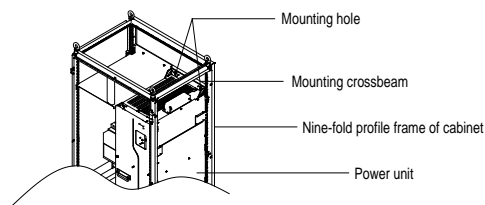

Figure 4-12 3D view of cabinet for VFDs in T11-T12 frames
- B. When mounting a VFD in frame T11–T12 into a nine-fold profile cabinet with the depth of 600mm, you must bend the mounting crossbeam inwards (shown in Figure 4-12) to make use of the space of vertical post, which is not necessary for the mounting into a standard cabinet with the depth of 800mm or greater.